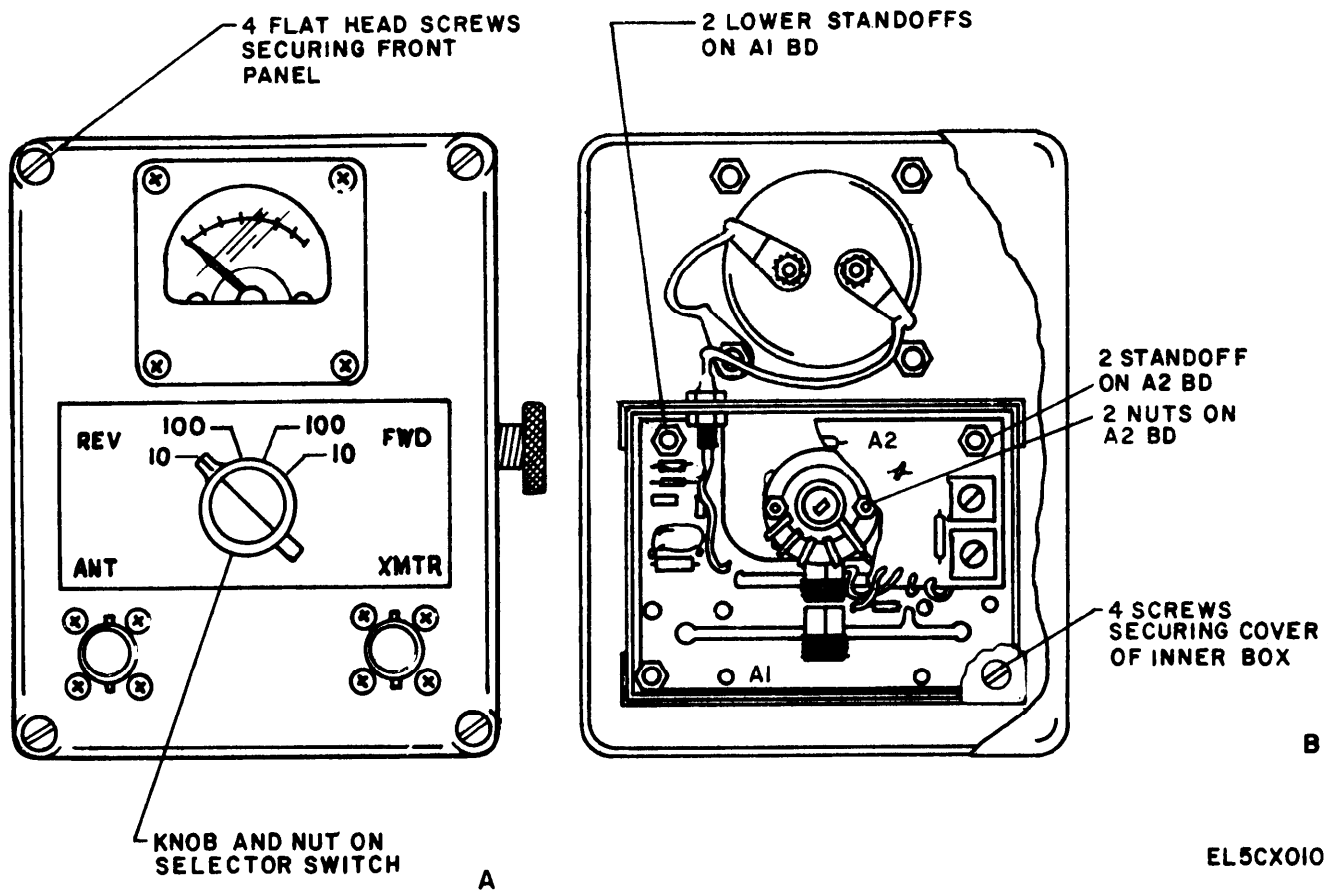

Figure 8-3. TS-3754/U, chassis parts location diagram.
(1) Remove the four flathead screws (fig. 8-3) holding the front panel to the case.
(2) Holding the front panel with the meter facing down, slowly lift the case from the front panel.
c. Removal of Printed Circuit Boards A1 and A2 (fig. 8-3).
(1) Remove the two standoffs and nuts that secure the A2 board to the chassis and selector switch. Remove and tag each of the wires attached to the A2 board.
(2) Remove the knob from the selector switch.
(3) Remove the hexagonal nut (under the knob) that secures the selector switch to the front panel.
(4) Remove four screws securing the ANT and XMTR connectors to the front panel.
(5) Remove the inner box from the front panel.
(6) Remove the two standoffs on the A1 board. Slowly lift the A1 board from the front panel. Unsolder and tag each of the wires attached to the A1 board.